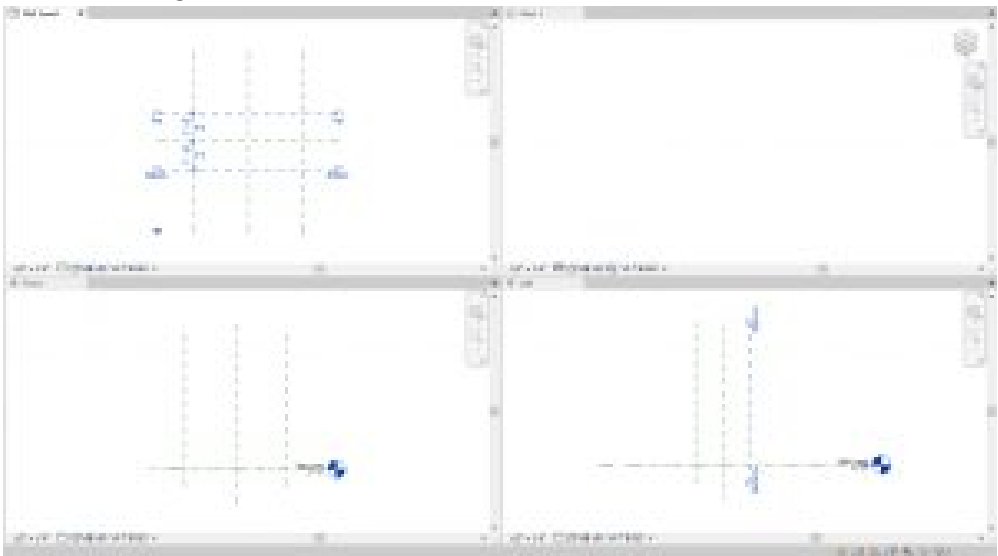

Figure 5.3 Horizontal reference planes created and labeled
8. Use the witness lines to change the distance to the center reference plane to 1'6" as shown in Figure 5.3